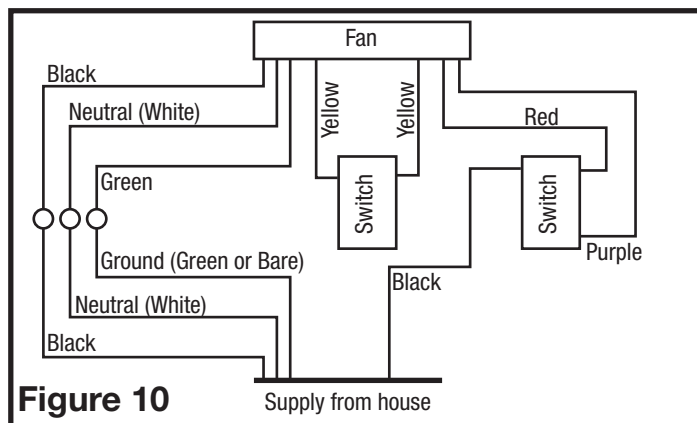

**Figure 9**
3. Secure the electrical wires to the housing with an approved electrical connector. For two speed fans wired for continuous ventilation, connect the White wire of the fan to the White (Neutral) wire from the power source. Connect the ground wire from the house to the Green wire from the fan housing. Connect the Black wire of the fan to the Black wire (Hot) from the power source. The fan will operate on low speed continuously and boost to high speed when motion is detected. Using a properly grounded standard duplex toggle switch (such as Leviton 5224-2W, not included) connect the black wire from the supply to one side of the top and bottom switch. Connect the red wire (light) from the fan housing to the other side of the top switch and connect the purple wire (night light) from the fan housing to the other side of the bottom switch. A manual override switch (not included) can be used to provide a manual fan Off function (Figure 9).